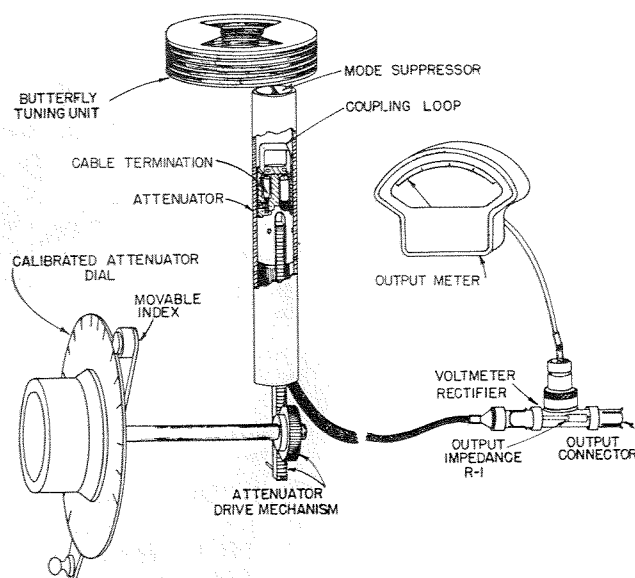

Figure 4. Functional Diagram of Output System.
**2.4 OUTPUT SYSTEM.** (See Figure 4.) One end of the attenuator pickup loop is grounded through a 50-ohm terminating resistor, and the other end is connected to a short length of 50-ohm flexible shielded lead, which connects to the Type 874-VR Crystal Voltmeter Rectifier mounted at the lower right-hand corner of the panel. The voltmeter unit is built into a coaxial T section and the r-f output voltage is measured at a point just ahead of the 50-ohm cylindrical terminating resistor in the center conductor of the output connector. The rectified output of the crystal drives the output voltmeter located on the power supply panel.